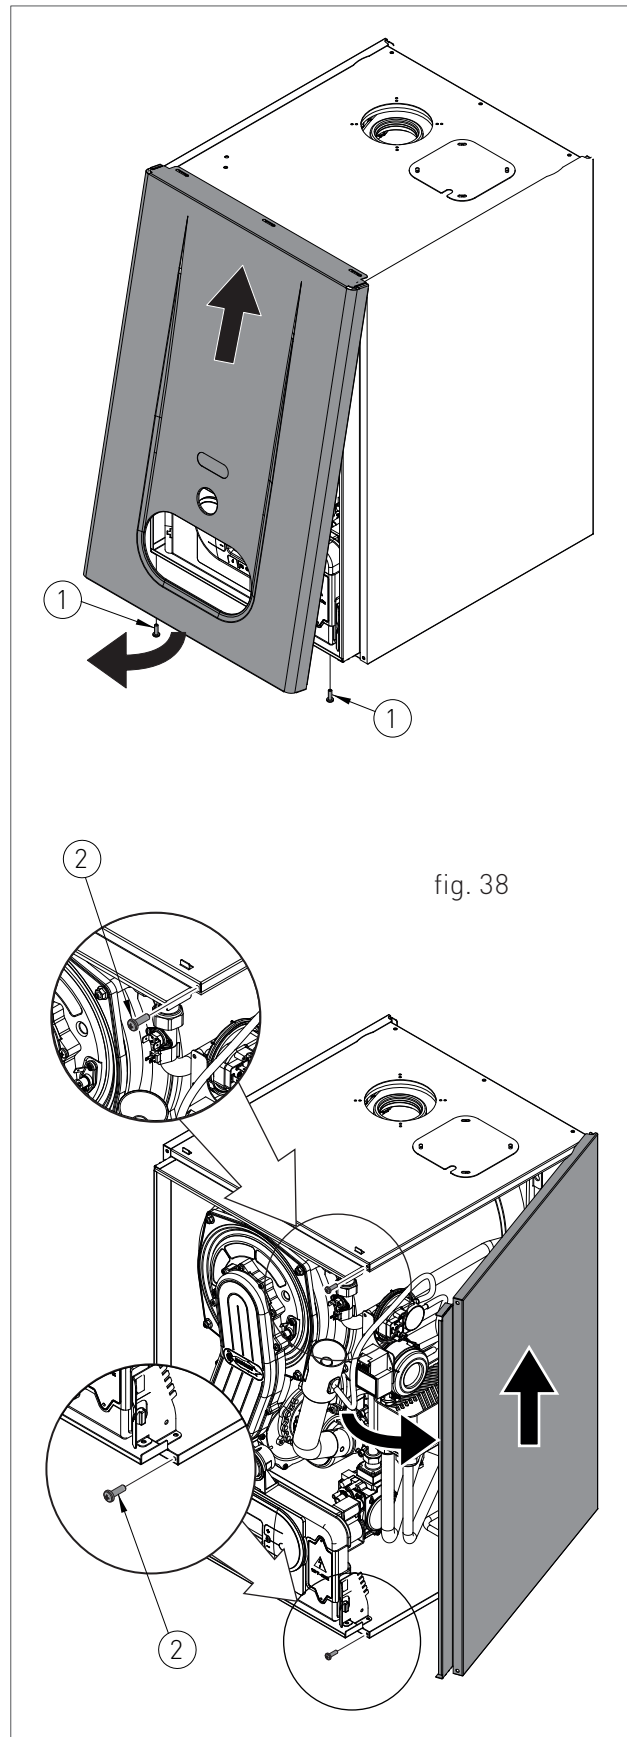

fig. 38
- › remove the fastening screws (1 - fig.38) placed on the lower edge of the front panel;
- › grab the front panel from the bottom and remove it pulling it towards you and then upwards (see fig. 38).
- › remove the fastening screw (2 - fig.38) placed on the front edge of the side panel;
- › grab the bottom of the panel and remove it by moving it sideways and then pulling it upwards (see fig. 38).